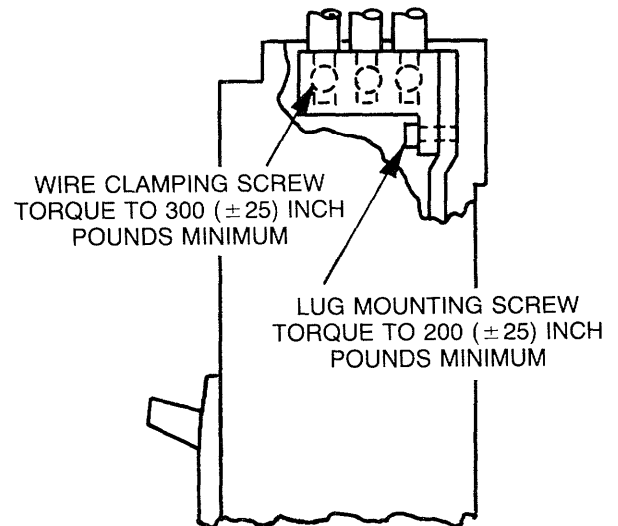

Figure 2. TB6 and TB8
3. Make certain all current connections are tight and limiters are properly fastened. On the TB6 and TB8, which utilize bolt-on limiters, the limiter screws should be tightened to 40 in. pounds. The fuse-type current limiter is a thermal device and loose connections can cause overheating and nuisance tripping. For proper lug terminal connecting procedure, see Figure 2.
Loose electrical connections	Tighten lugs and retighten cable connections (Figure 2).
3. Experience has shown that stranded copper or aluminum cable will relax or cold flow after initial tightening. The lug screws should be retightened at least once (Figure 2). When aluminum cable is used, special connection compound recommended by the aluminum cable manufacturer should be used.